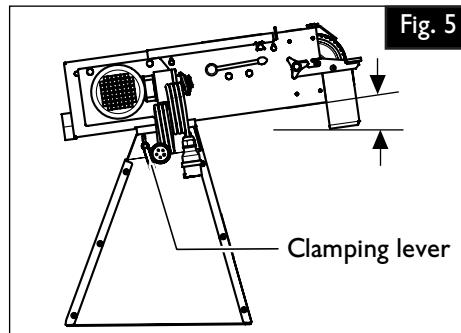

Fig. 5
7.1 Adjusting the incline (Figure 5).